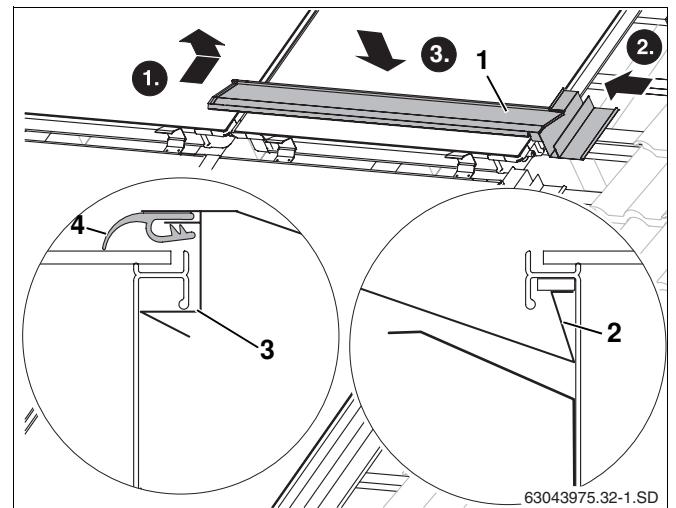

Fig. 50 Inserting first middle facing collector
- Insert the upward fold on the facing collector (Fig. 50, **Item 2**) into the recessed grip on the collector frame.
- Feed facing collector (Fig. 50, **Item 1**) towards the collector and into the side facing collector on the right.
- By applying pressure to the top of the facing collector, it clicks under the recessed channel on the collector frame (Fig. 50, **Item 3**).
- Place the rubber lip (Fig. 50, **Item 4**) on top of the collector.